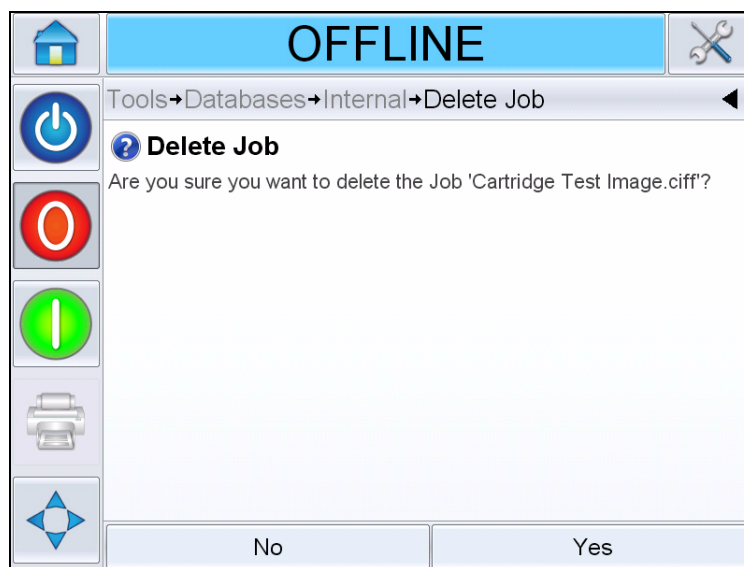

Figure 6-14: Confirmation Screen
- 6 Confirm the job to be removed (see Figure 6-14).